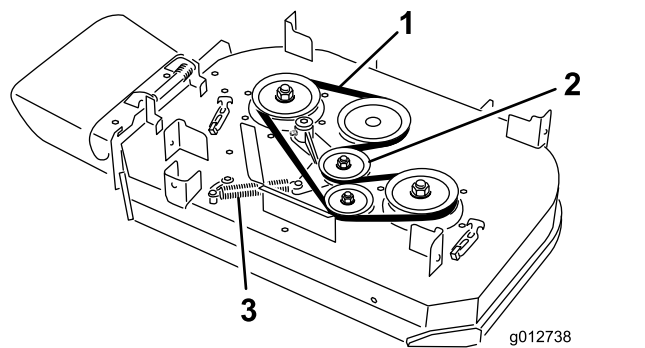

Figure 62
4. Remove the spring from the anchor post on the idler-pulley arm (Figure 62).
5. Remove the worn mower belt (Figure 62).
6. Install the new mower belt around the clutch pulley, the deck pulleys, and the idler pulley (Figure 62).
7. Install the spring onto the anchor post on the idler-pulley arm (Figure 62).